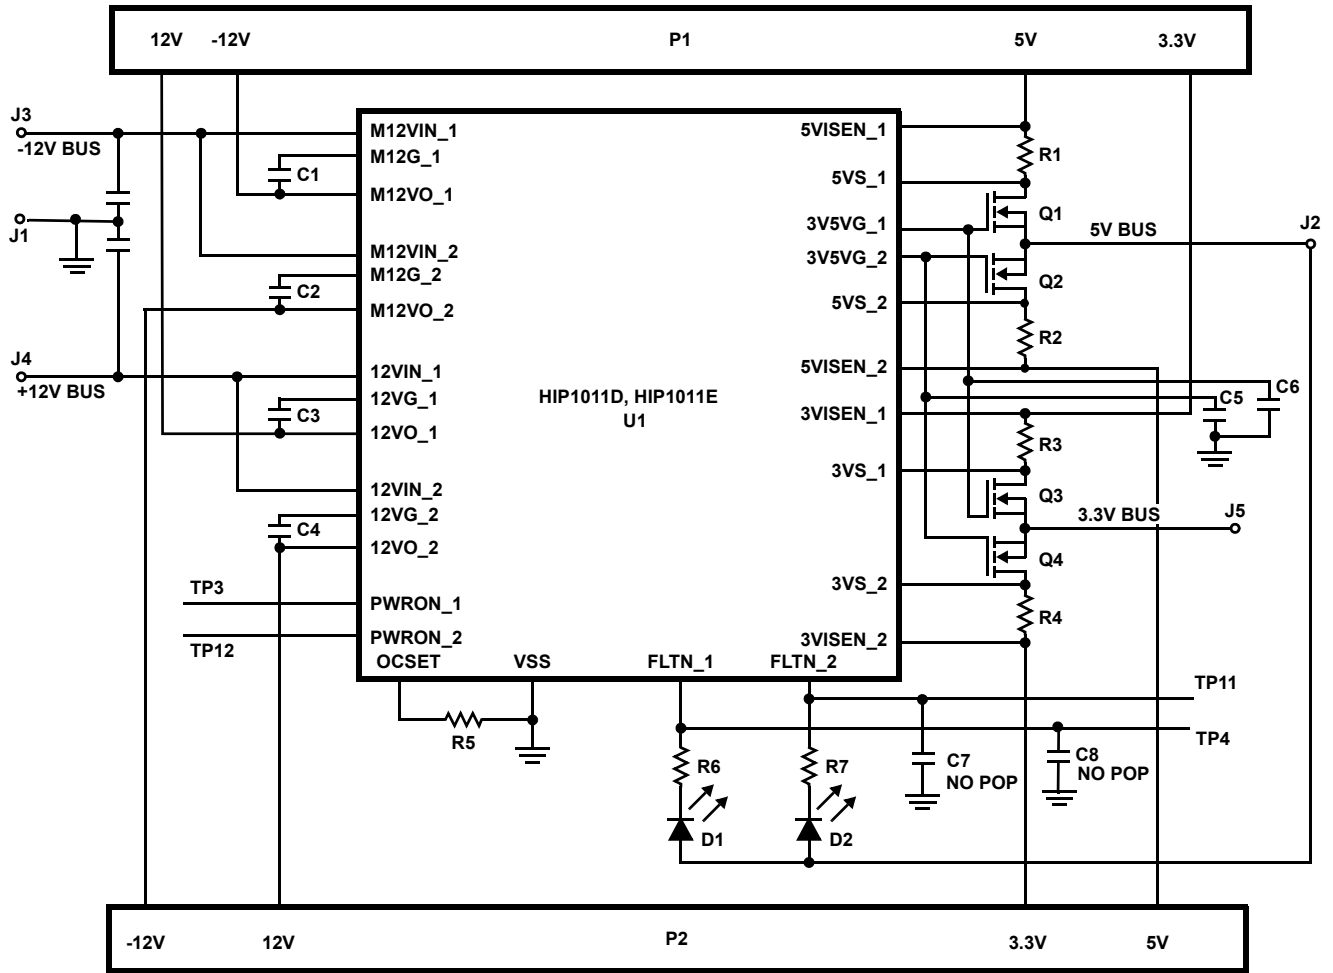

FIGURE 24.
1. For PCI applications, set R_{OCSET} to 6.04k Ω , and use 5m Ω 1% sense resistors (see Figure 24).
The HIP1011DEVAL1 platform (Figure 24) comes as a three part set consisting of 1 motherboard emulator and 2 load cards. This evaluation platform allows a designer to evaluate and modify the performance and functionality of the HIP1011D or HIP1011E in a simple environment.